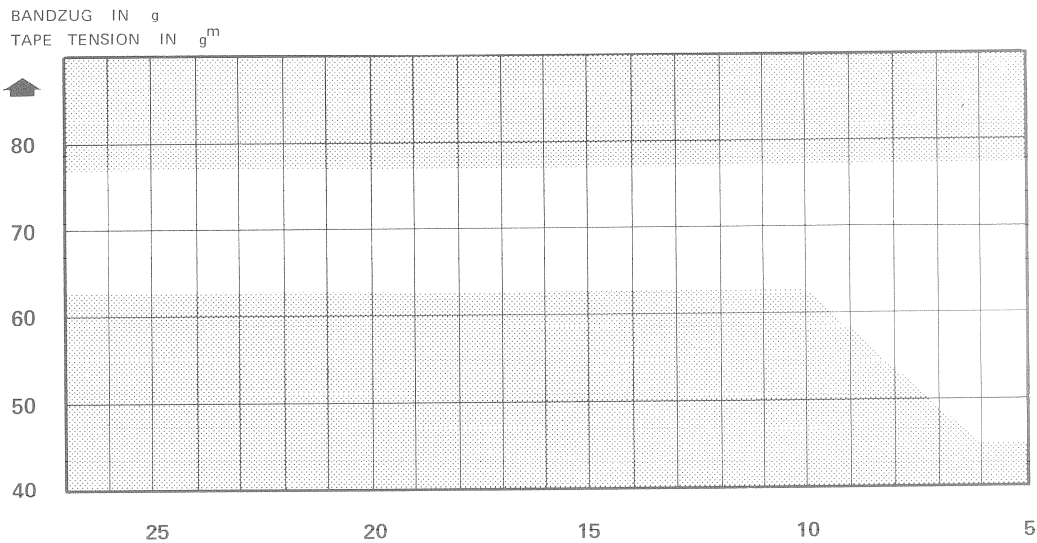

Fig 23
4. Repeat point 2 and 3 until the tape tension values correspond with fig 23.